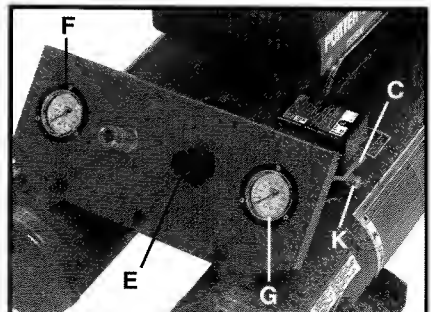

Fig. 3
ON/AUTO - OFF Switch (C) Fig. 3: Turn this switch ON to provide power to the automatic pressure switch and OFF to remove power at the end of each use.
Regulator (E) Fig. 3: The air pressure coming from the air tank is controlled by the regulator. Pull up on the regulator knob to UNLOCK. Turn the regulator knob clockwise to increase pressure and counterclockwise to decrease pressure. To avoid minor readjustment after making a change in pressure setting, always approach the desired pressure from a lower pressure. When reducing from a higher to a lower setting, first reduce to pressure less than that desired, then bring it up to the desired pressure. Depending on the air requirements of each particular accessory, the outlet regulated air pressure may have to be adjusted while operating the accessory. Push down on regulator knob to LOCK at desired setting.
Outlet Pressure Gauge (F) Fig. 3: The outlet pressure gauge indicates the air pressure available at the outlet side of the regulator. This pressure is controlled by the regulator and is always less than or equal to the tank pressure. See "Operating Procedures".
Tank Pressure Gauge (G) Fig. 3: The tank pressure gauge indicates the reserve air pressure in the tank.
Safety Valve (K) Fig. 3: If the pressure switch does not shut off the air compressor at its cutout pressure setting, the safety valve will protect against high pressure by “popping out” at its factory set pressure (slightly higher than the pressure switch cut-out setting).